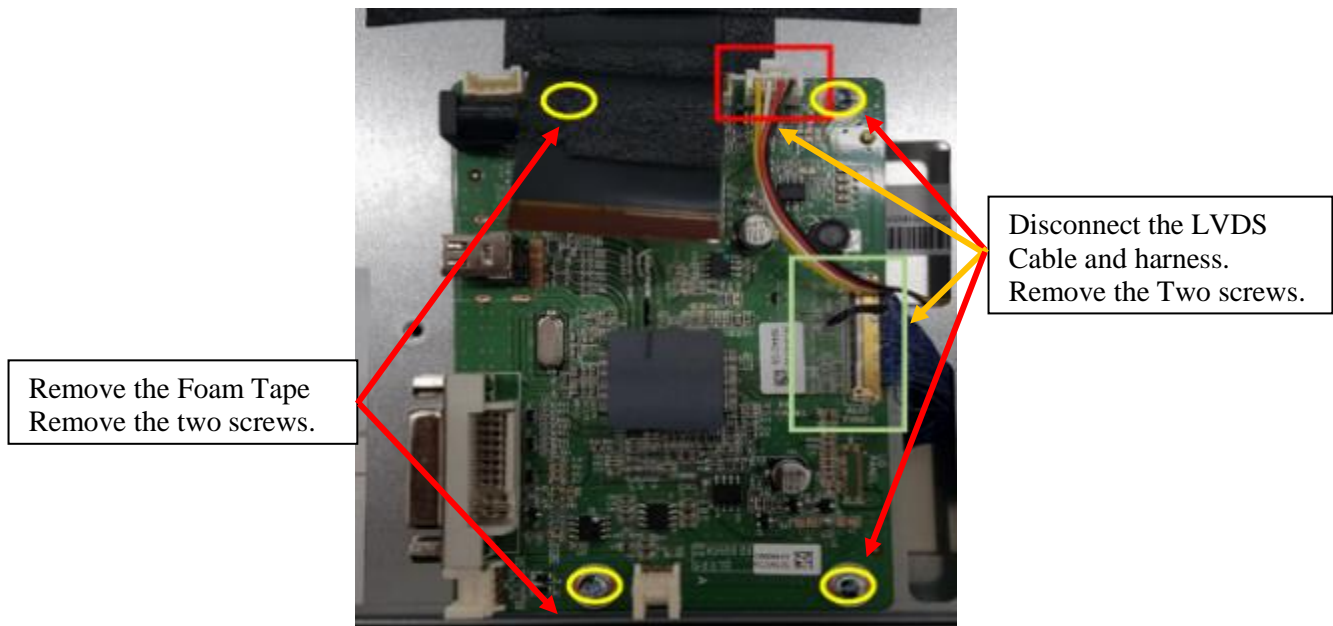

Figure 2.
- 2) Locate the A/D board as shown in Figure 2.